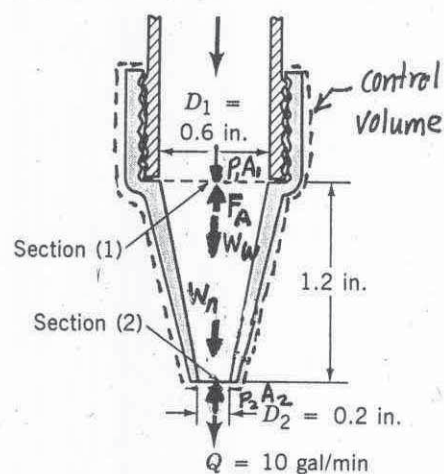

FIGURE P5.38
**5.38** Determine the anchoring force required to hold in place the conical nozzle attached to the end of the laboratory sink faucet shown in Fig. P5.38 when the water flowrate is 10 gal/min. The nozzle weight is 0.2 lb. The nozzle inlet and exit inside diameters are 0.6 and 0.2 in., respectively. The nozzle axis is vertical and the axial distance between sections (1) and (2) is 1.2 in. The pressure at section (1) is 68 psi.